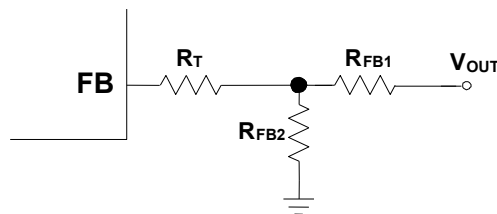

Figure 1: T-Type Network
8. The T-type network is highly recommended when V_{OUT} is low (see Figure 1)